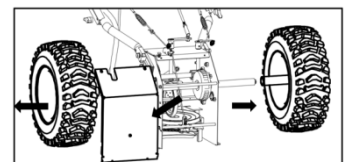

Figure 24
b. Remove the left and right wheels by removing the snap joints on side of wheels . See Figure 24